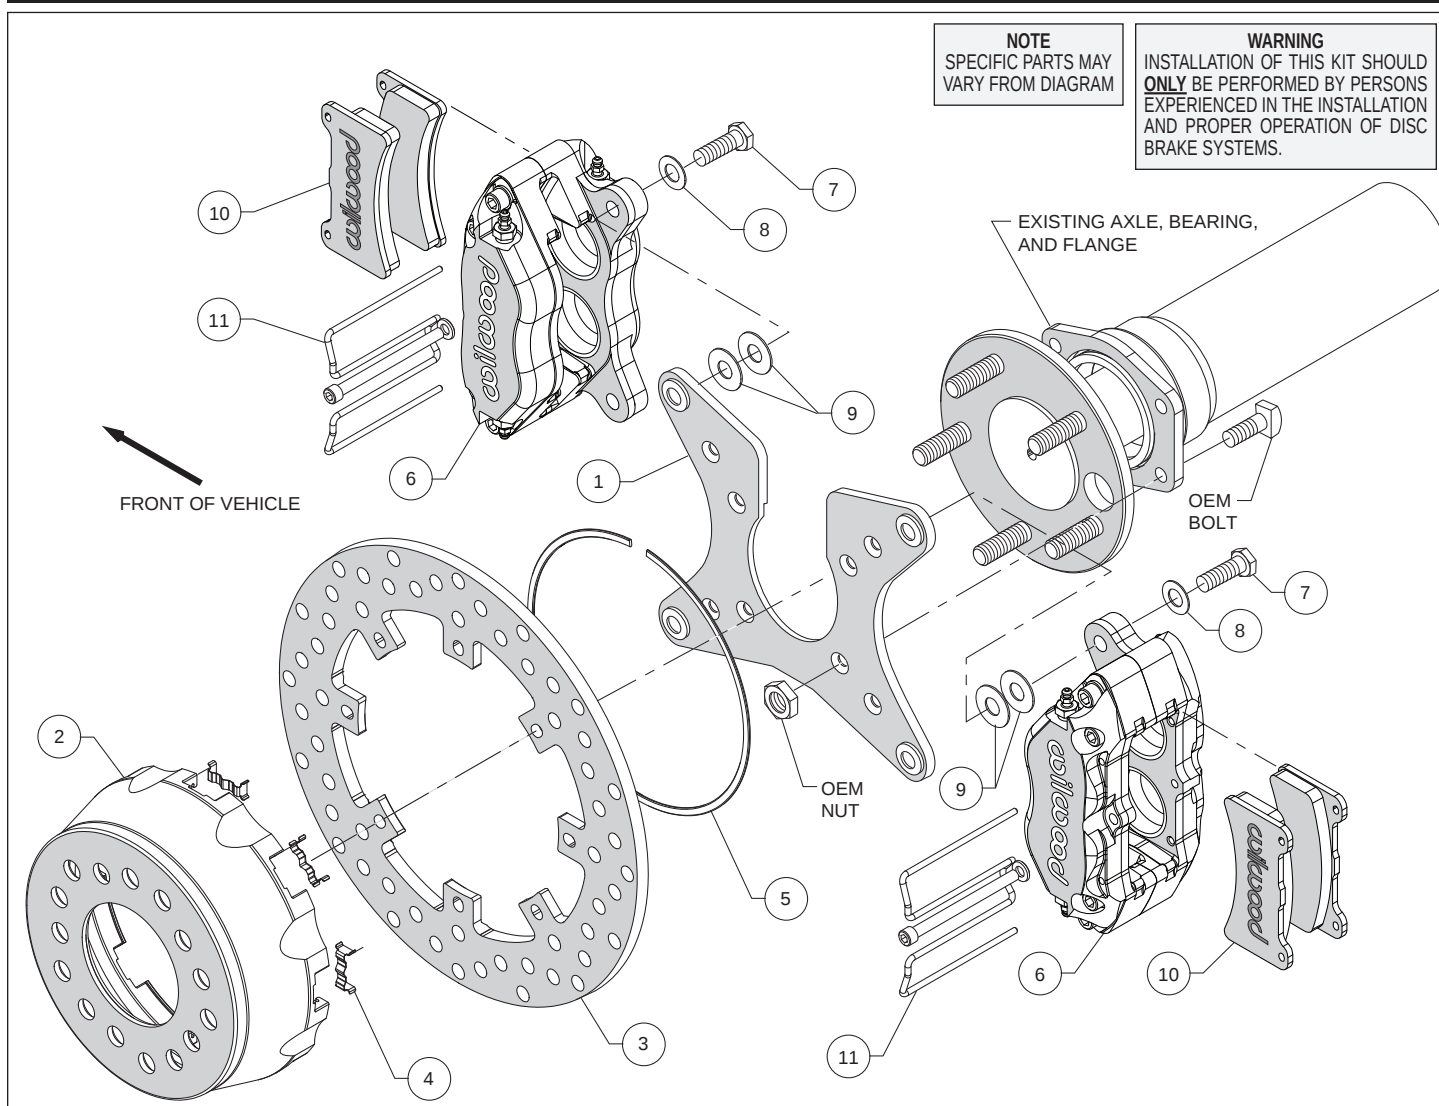
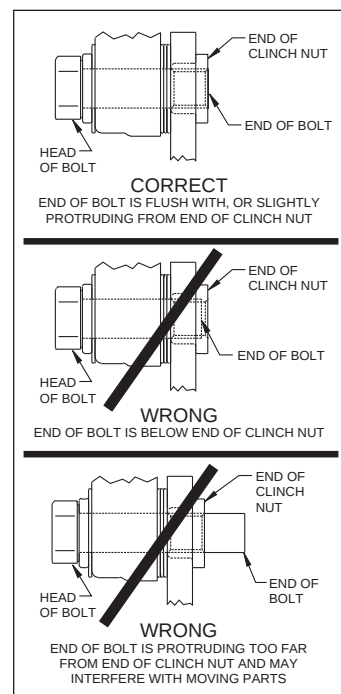

Figure 1. Typical Installation Configuration
Figure 5. Clinch Nut Engagement Diagram
Assembly Instructions (numbers in parenthesis refer to the parts list and Figure 1 on the preceding pages): **CAUTION:** All mounting bolts must fully engage clinch nuts. Be sure to check that all bolts are either flush or protruding through flanged side of clinch nut after shimming, Figure 5.
- Install the caliper mounting bracket (1), with the slot for the axle pointing upward, to the housing flange using the OEM bolts and nuts, as shown in Figure 1 and Photo 1. Ensure that the caliper mounting ears on the bracket are oriented fore and aft on the car, with the heads of the clinch nuts facing outboard, Photo 1. Apply red *Loctite*® 271 to the OEM bolt threads and torque to OEM specifications.
- Insert the dynamic mount wear clips (4) into the slots in the hat (2) making sure the tabs snap in place, Photo 2. Orient the rotor (3) as shown in Figure 1 and Photo 3, with the flush mount tab side facing the hat. Attach the rotor to the hat using snap ring (5) by pushing down on the rotor and installing the ring into the groove in the hat, as shown in Photo 4. Ensure that the ring is fully engaged in the groove.
- Align the correct hole pattern in the hat (2) with the axle stud pattern and slide the hat/rotor assembly onto the axle hub. **NOTE:** The hat must fit flush against the axle flange or excessive rotor run out may result. Install three lug nuts (finger tight) to keep the hat/rotor in place while continuing with the installation. **NOTE:** The hats included in this brake kit are drilled for .68" diameter wheel studs.
- NOTE:** Please reference the caution statement at the beginning of the assembly instructions. Mount one caliper (6) onto the mounting bracket (1) using bolts (8) and washers (7), as shown in Figure 1. Initially place two .035" thick shims (9) on each bolt between the caliper and the bracket, Photo 5. Temporarily tighten the mounting bolts and view the rotor (3) through the top opening of the caliper. The rotor should be centered in the caliper, Photo 6. If not, adjust the caliper by adding or subtracting shims between the bracket and the caliper. Always use the same amount of shims on each of the two mounting bolts. **NOTE:** The end of each bolt must be flush with or slightly protruding from the head of the clinch nut. If necessary, place spare shims between washer and caliper mounting ear to achieve the proper clinch nut engagement, as shown in Figure 5. Once the caliper alignment and clinch nut engagement are correct, remove the bolts one at